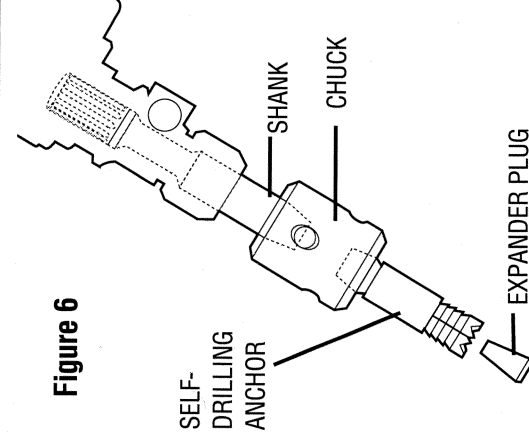

Figure 6
1. Place the proper size chuck on the shank as shown in Figure 6. Insert the shank into the hammer and lock it in place with the tool retainer.